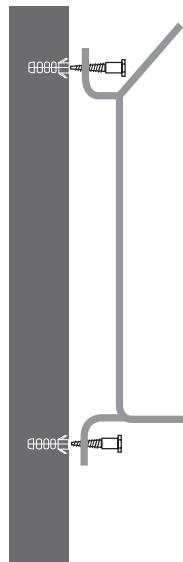

Figure 1
1. Install the bracket on the pole or wall as shown in Figure 1 using supplied screw anchors and lag bolts.